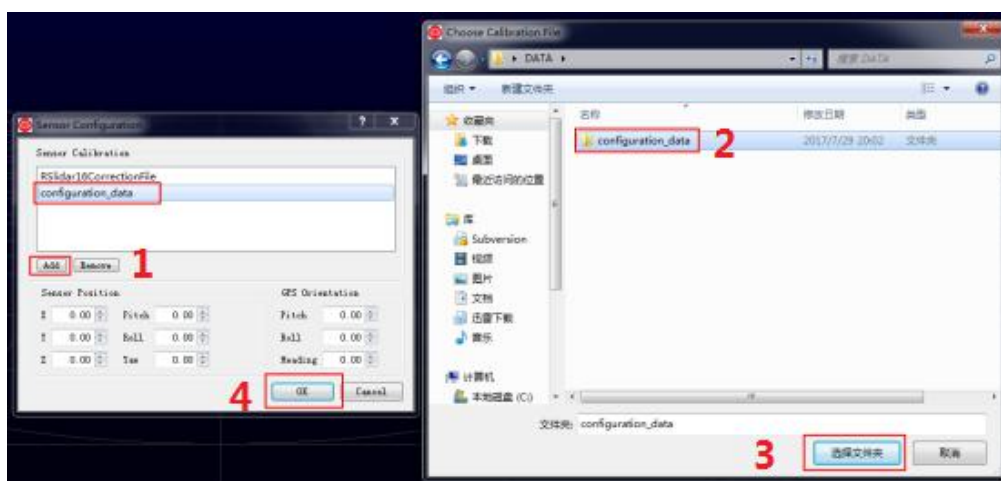

Fig C-2 RSView Select Sensor Correction File
4. The Sensor Configuration dialog will appear. The application contains a default configuration folder of RSLIDAR-16 called "RSLidar16CorrectionFile" for reference, but please add the right configuration files folder of the RSLIDAR-16 you have, or you will get chaos point cloud display with the default configuration files. Select the configuration files folder of your lidar and then click **OK** (Fig C-2). The path of the folder should only include English characters and should include all three csv files (angle.csv, ChannelNum.csv, curves.csv). You can find the configuration files folder named "configuration_data" in the U disk in the RS-LiDAR-16 package box or you can ask the RoboSense support to get the files. The path contains the configuration files should not contain any Chinese character.